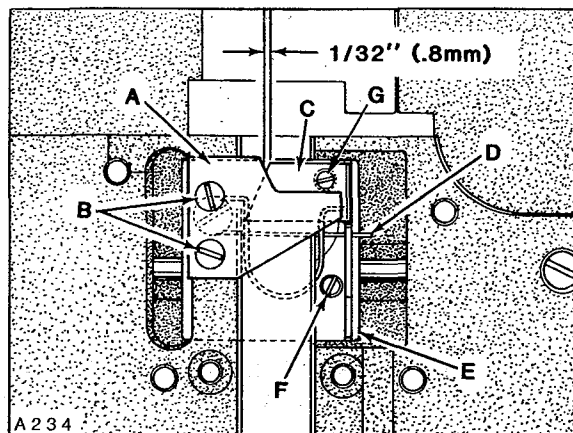
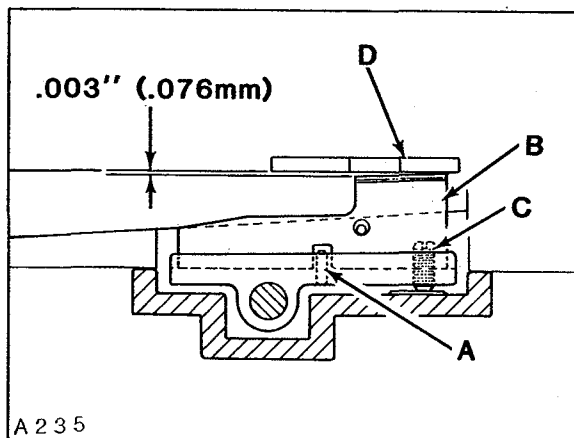

Fig. 31
Fig. 32
NOTE: References to Fig. 31 are as viewed from rear of machine; references to Fig. 32 are as viewed from left end of machine.
Upper knife (A, Fig. 31) can be replaced by removing two screws (B). In order to replace lower knife... the upper knife, rear cover and thread inlet must be removed. Lower knife (C) is held in position by roll pin (A, Fig. 32) and tension spring (D, Fig. 31). To remove lower knife, lift up and tilt to the right. When replacing lower knife, be sure to engage end of tension spring through the hole in the side of lower knife before inserting in the slide block (E). Also be sure that the slot in lower knife is located over roll pin.
IMPORTANT! Be sure that lower knife does NOT strike against knife housing or feed chamber cover. Adjustment should be accomplished by loosening one screw (F, Fig. 31) and reposition left or right slightly.
Carefully press against slide block (E, Fig. 31) until air motor stalls.
With treadle still depressed, check the knife cross over. The cross over of the lower knife to the upper knife is positioned correctly, when the lower knife is 1/32 inch (.8mm) from the front of the upper knife as shown in Figure 31. If adjustment is required, loosen screw (F), reposition slide block (E) slightly as required. Retighten screw (F) and recheck cross over.
Shear angle should be .003 inch (.076mm), measured at rear cutting edge of lower knife (B, Fig. 32) and cutting edge of upper knife (D).
Adjustment can be made by turning lower knife adjusting screw (C, Fig. 32) counterclockwise (a small amount at a time) while manually
operating slide block (E, Fig. 31) continuously checking with a piece of thread to see if knives are cutting. As soon as the knives fail to cut the thread and the shear angle is zero, turn screw (C, Fig. 32), same as (G, Fig. 31) clockwise approximately 1/4 turn. Check cutting action of knives with sewing motor switch "ON".